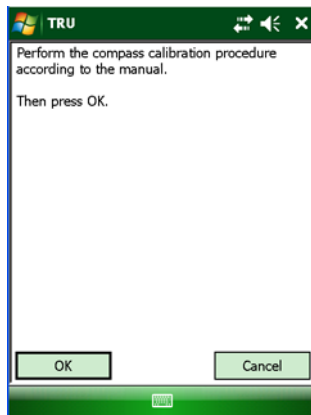

Figure 4-16. Begin Compass Calibration
- Press **Calibrate**, and then start the calibration as shown in Figure 4-16.